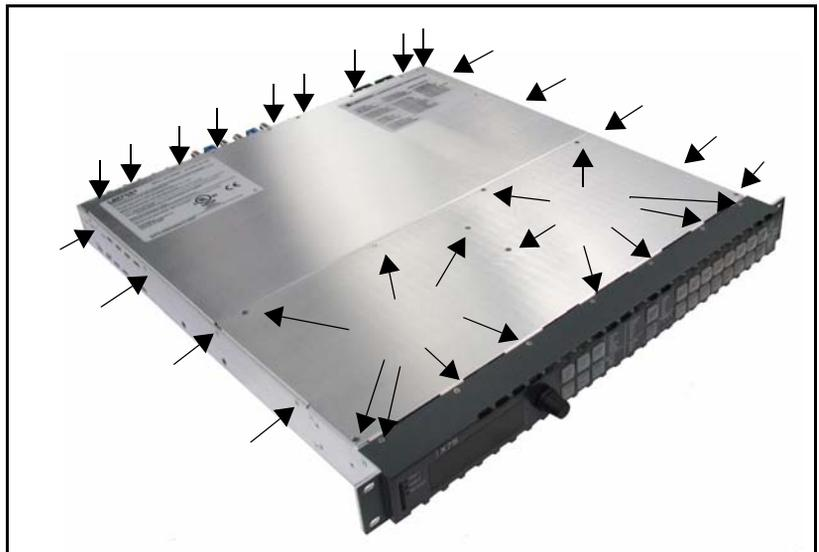

Figure C-2. Location of Chassis Cover Screws
3. Use a Phillips screwdriver to remove the retaining screws on the chassis cover and then lift the cover off. Figure C-2 shows the location of the screws along the back edge, front edge, top, and each side of the frame.
1. Remove the screws along the back edge and each side of the X85/X75's chassis cover (see Figure C-2 on page 315), and then slide the cover off.